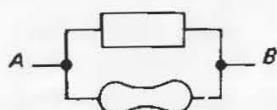

Figure 1.1
**2.** Things hooked in parallel (Fig. 1.1) have the same voltage across them. Restated, the sum of the "voltage drops" from *A* to